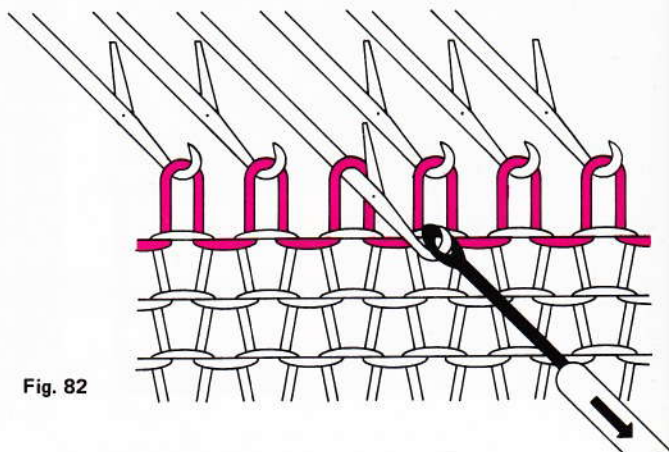

Fig. 82
- Slip the eye of the transfer tool over the hook of the needle and pull the needle towards you so that the stitch slips behind the latch (fig 82).